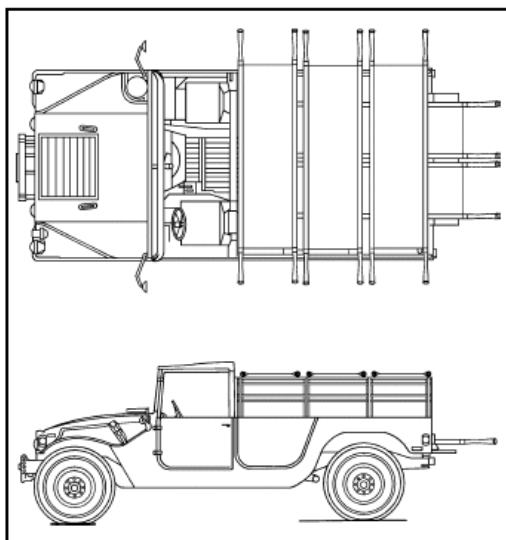

Figure 3-57. Load an M998
2. Direct nonmedical Soldiers to load an M998 (four-man configuration). Refer to Figure 3-57.